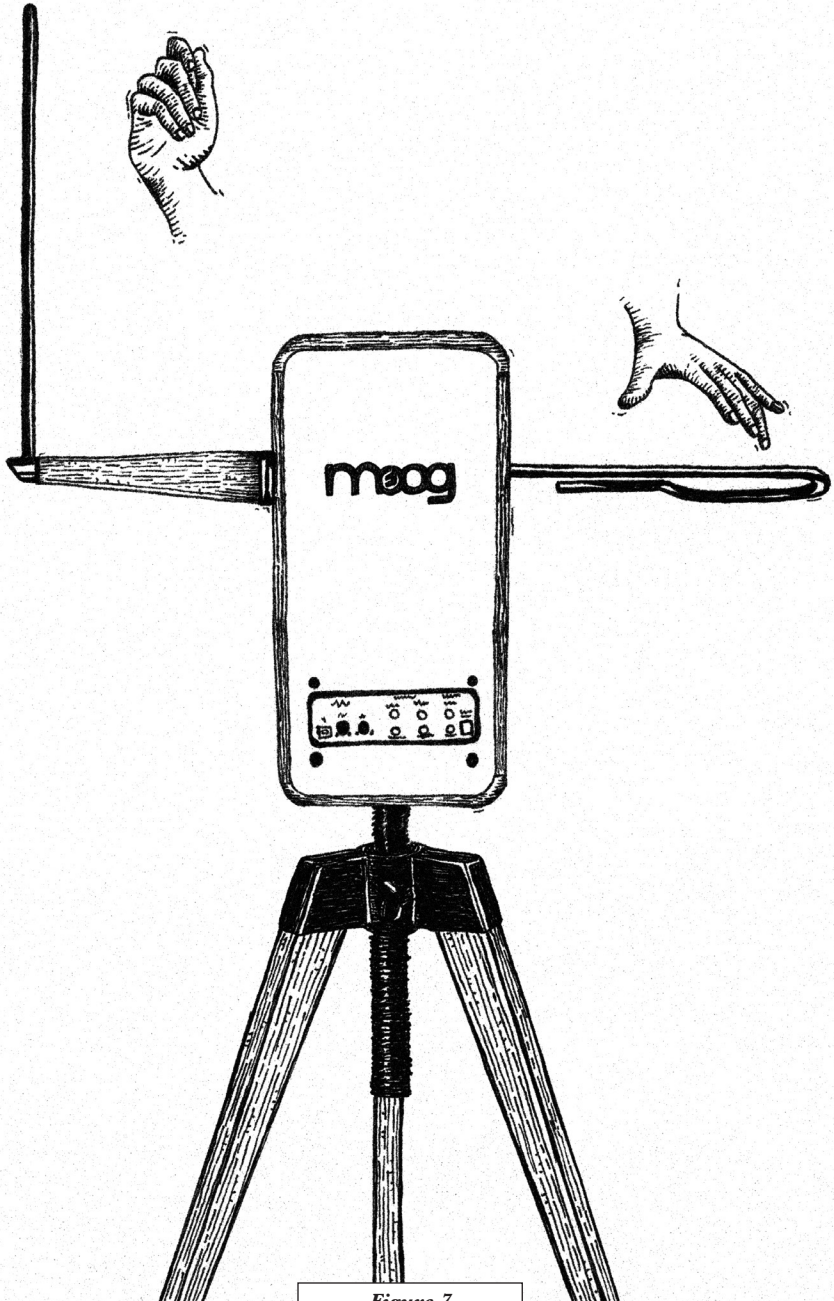

Figure 7
6. Hold your volume hand just above the Volume Antenna, while positioning your other hand in a rest position, with your pointer finger resting on your thumb. **Refer to Figure 7.**